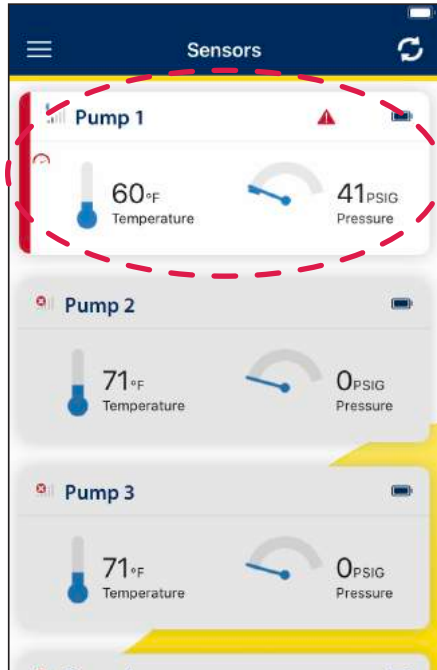
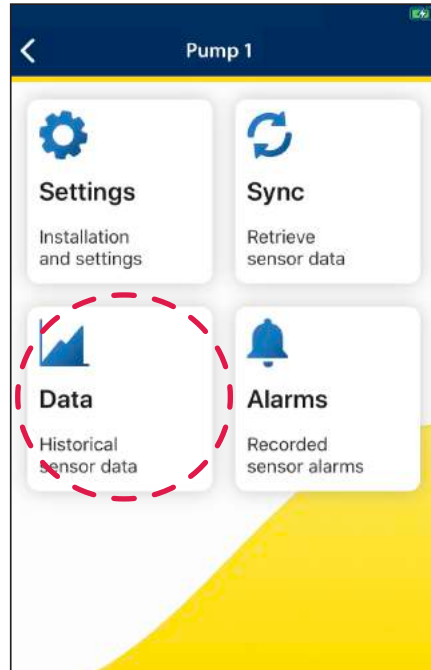

Figure 27
Figure 28
1. Choose the sensor you want (see figure 27) to view the measured data from. Then select **Data** (see figure 28).